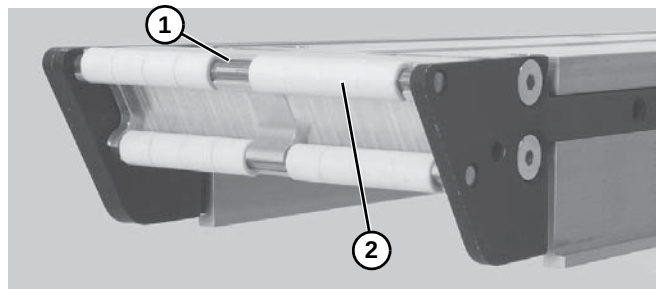

Figure 58
3. Slide bearing rods (Figure 58, item 1) out side of conveyor and replace bearings (Figure 58, item 2) as necessary.